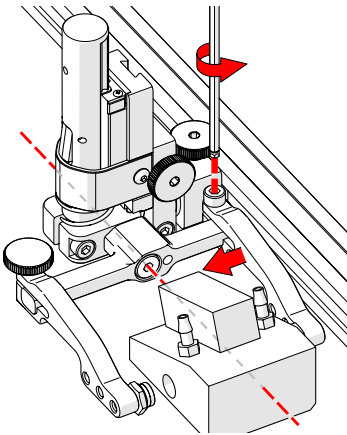

Fig. 65 - Adjust inner arm
4. Position the wedge on the inner probe holder arm (Fig. 65).
TIP: The probe holder yoke can accommodate many different probe and wedge sizes of varying widths. It is best to centre the wedge with the yoke's pivot axis. This can reduce wedge 'rocking' when scanning. Position the inner probe holder arm accordingly (Fig. 65) using the supplied 3 mm hex driver (Fig. 33).